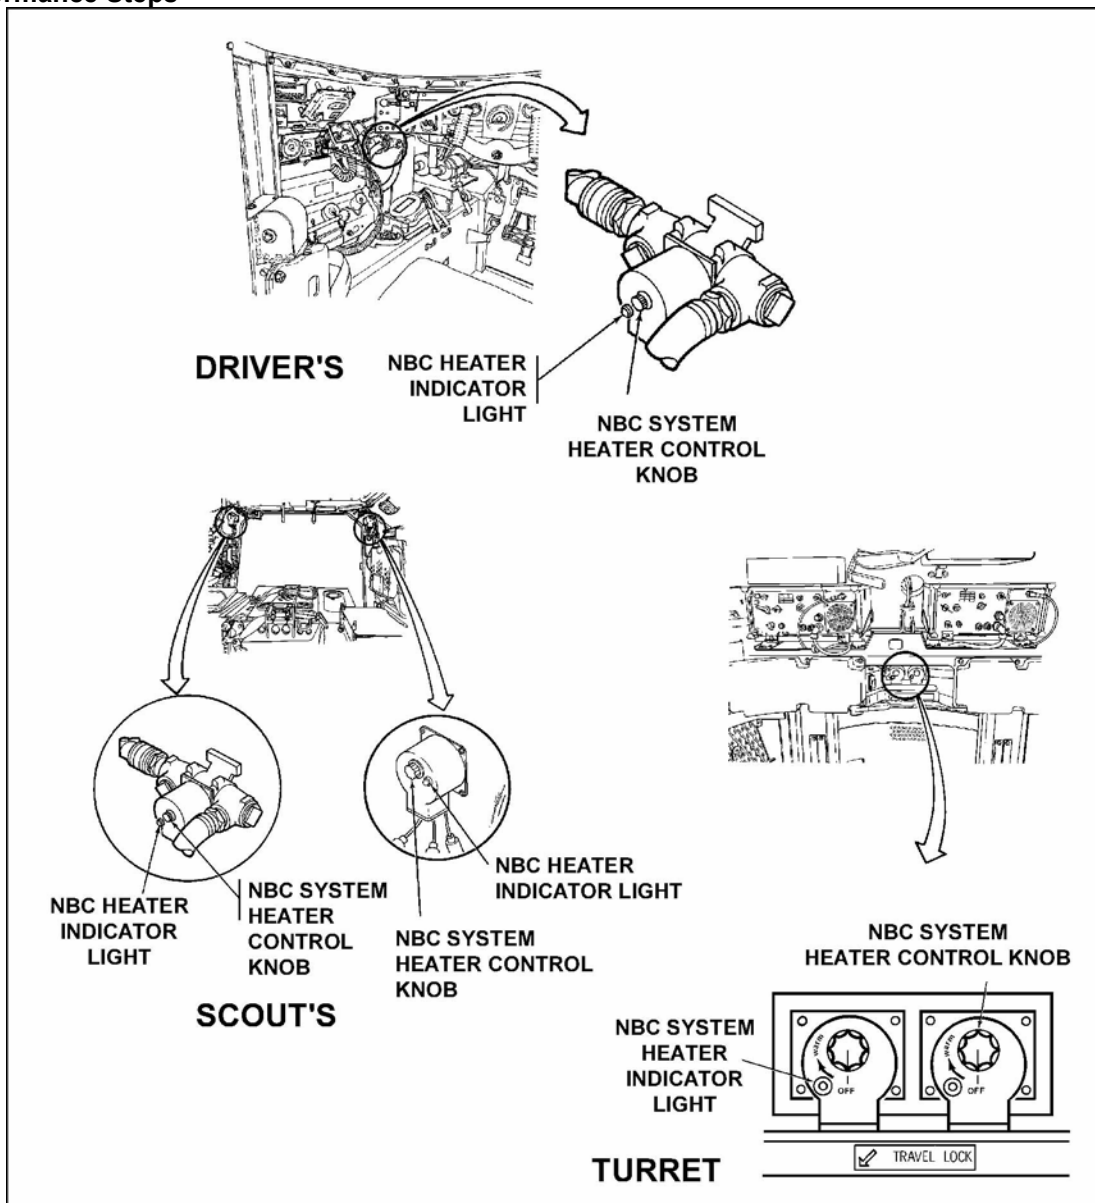

Figure 4. NBC heater.
3. Check the air outlet and NBC heater (Figure 4).